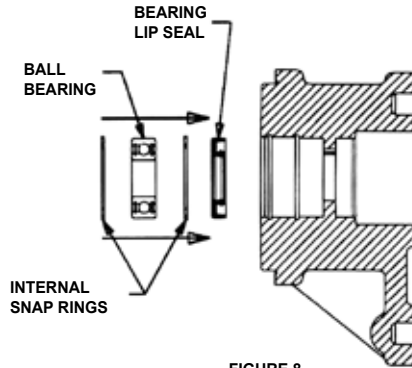

FIGURE 8
1. If installing new lip seals, press the product side (inboard) lip seal into the bracket. See Figure 8. Press the lip seal protecting the ball bearing (outboard) into the bracket with lip facing inward.